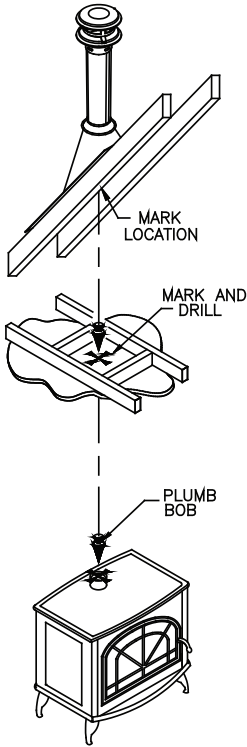

Figure 2
B. Drop a plumb bob to the center of the appliance flue outlet and mark center point on the ceiling (**Figure 2**). At your marked center point, cut and frame a square hole in the ceiling for installation of the Ceiling Support or Firestop Spacer (**Figure 3**). Refer to **Table 1** for the dimensions of the hole.